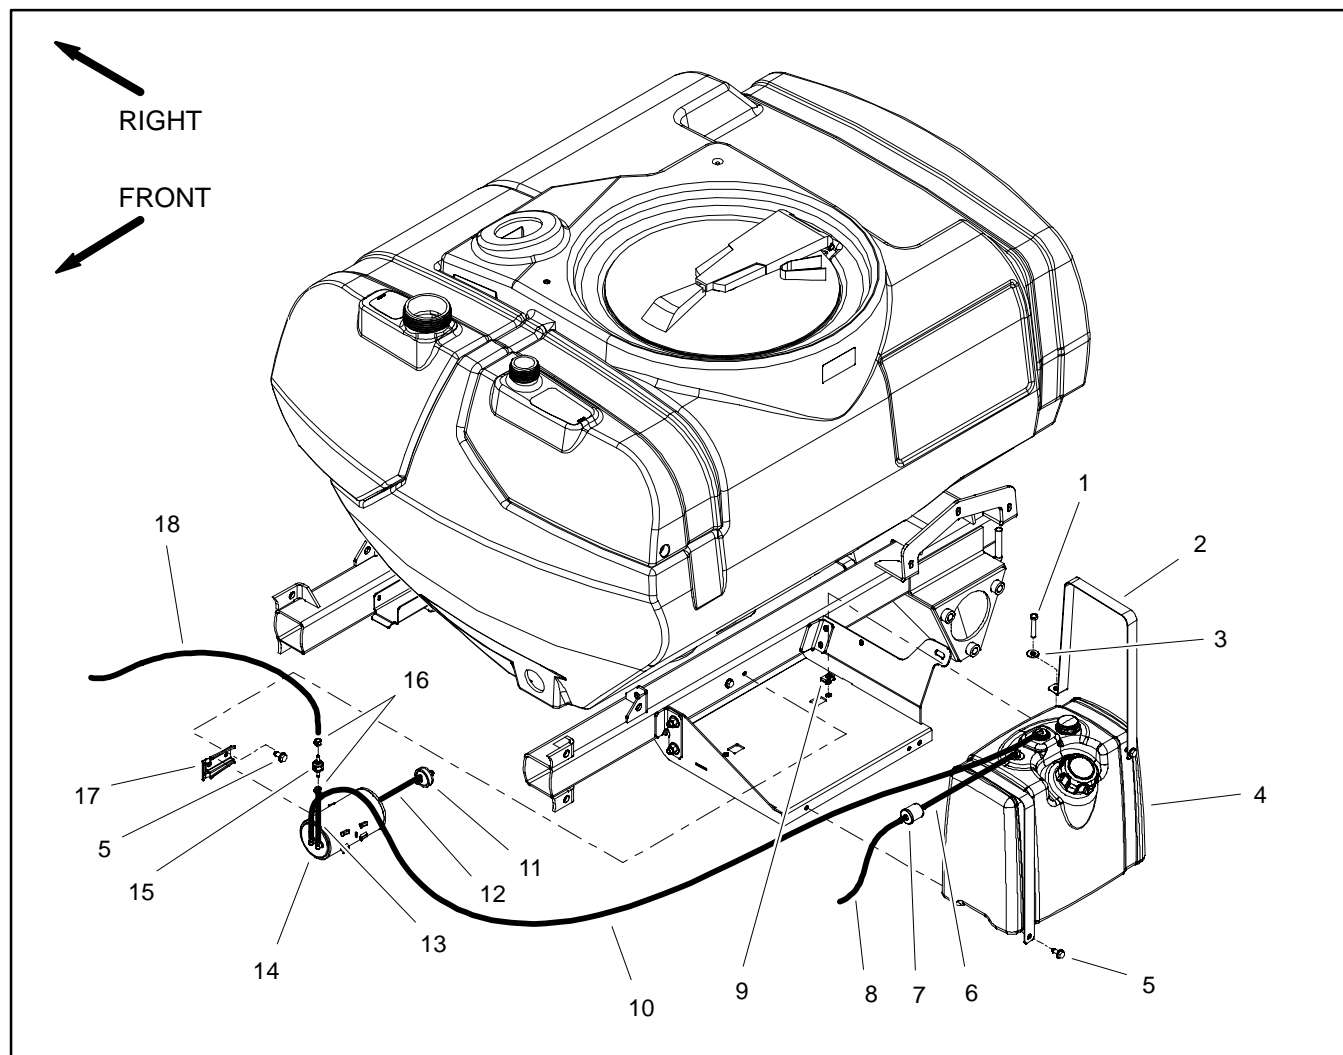

Figure 5
4. Remove fuel tank from machine using Figure 5 as a guide.
2. Install fuel tank to machine using Figure 5 as a guide.